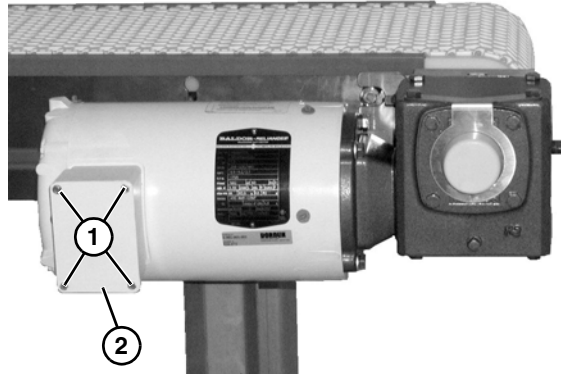

Figure 37
- Loosen terminal box screws (**Figure 37, item 1**) and remove cover (**Figure 37, item 2**).